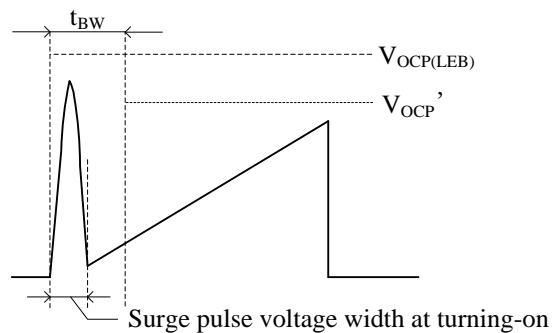
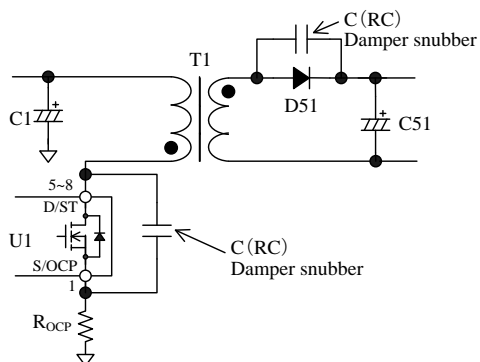

Figure 10-12. S/OCP Pin Voltage
Figure 10-13. Damper Snubber
During the leading edge blanking time, the OCP threshold voltage becomes  $V_{OCP(LEB)} = 1.69\text{ V}$  which is higher than the normal OCP threshold voltage as shown in Figure 10-12. Changing to this threshold voltage prevents the IC from responding to the surge voltage in turning-on the power MOSFET. This function operates as protection at the condition such as output windings shorted or unusual withstand voltage of secondary-side rectifier diodes.
When the power MOSFET turns on, the surge voltage width of the S/OCP pin should be less than  $t_{BW}$ , as shown in Figure 10-12. In order to prevent surge voltage, pay extra attention to  $R_{OCP}$  trace layout (see Section 11.2). In addition, if a C (RC) damper snubber of Figure 10-13 is used, reduce the capacitor value of damper snubber.